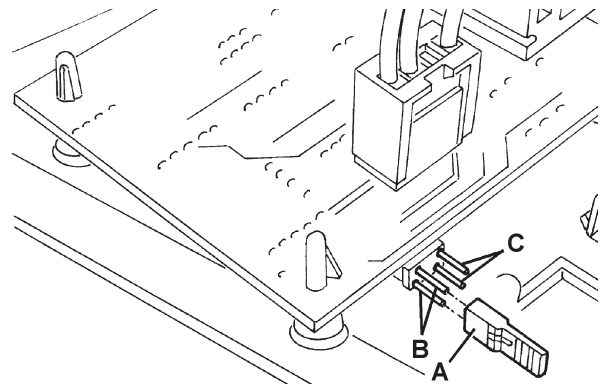

Figure 27
11. Install a jumper wire (A, Fig. 27) on WET connectors (B) for lead batteries, or on GEL connectors (C) for gel batteries.